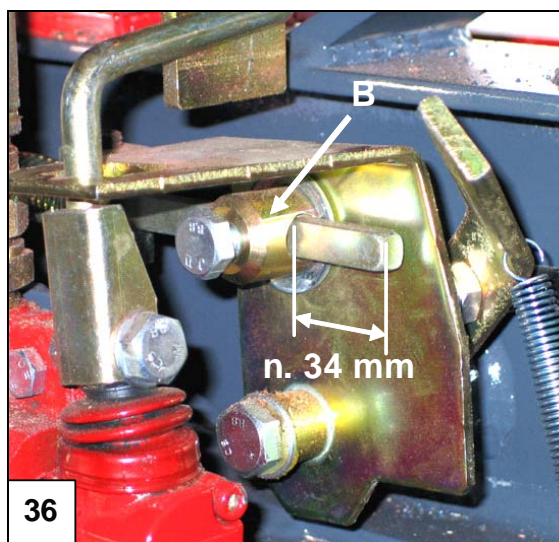

Fig. 36. Basic settings of the valve 2/2
- The value for rough adjustment is about 34 mm (Figure 36).
1. Loosen lock screw B on the shaft (17 mm spanner, Figure 36).